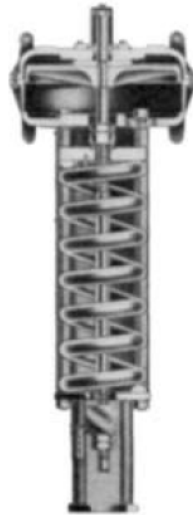

Figure 2-4. Typical pneumatic actuator (courtesy of Fisher Controls International, Inc.).
- The most common way to affect this motion is with a pneumatic actuator, such as that shown in Figure 2-4.